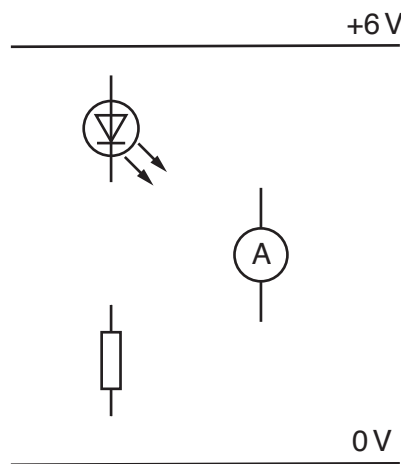

Fig. 2
- 2 Fig. 2 shows an LED, a resistor and an ammeter in a circuit.